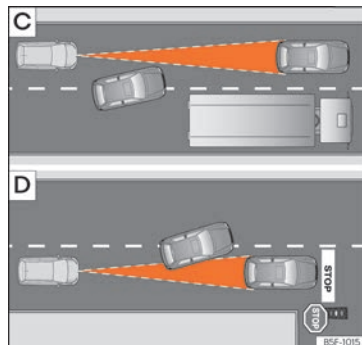

Fig. 173 [C] Vehicle changing lanes. [D] One vehicle turning and another stationary.
- Vehicles that move into your lane, a short distance from your vehicle »» Fig. 173 [C].
The ACC does not react to stationary vehicles. If, for example, a vehicle detected by the ACC turns or moves over and there is a stationary vehicle in front of it, the ACC will not react to the second vehicle »» Fig. 173 [D].